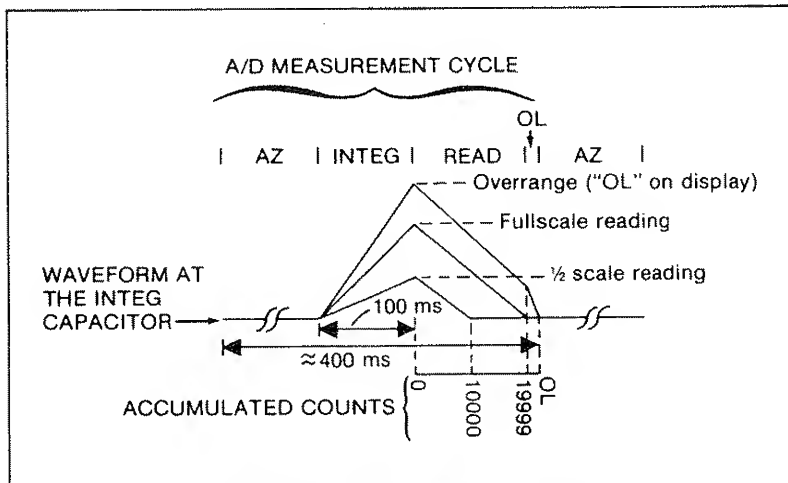

Figure 4-3. A/D Measurement Cycle
The complete a/d measurement cycle is shown in Figure 4-3. It consists of three consecutive time periods: autozero (AZ), integrate (INTEG) and read. A fourth time period, overload (OL) is also used if an overrange reading is taken. The total length of the measurement cycle is 400 ms. The length of the integrate period is fixed at 100 ms. One hundred ms is a multiple of the period of 50 Hz or 60 Hz power, which helps to reduce possible power line noise that might interfere with the measurement. The waveform at the INTEG capacitor is shown for three sample measurement readings: half-scale, full-scale, and overrange.